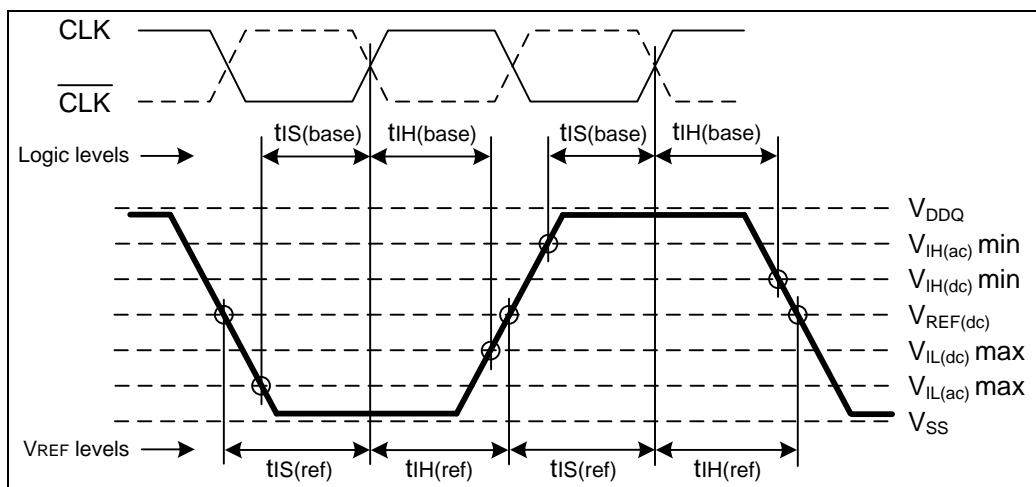

Figure 17 – Differential input waveform timing – t_{IS} and t_{IH}
10. There are two sets of values listed for Command/Address input setup time: $t_{IS(base)}$ and $t_{IS(ref)}$. The $t_{IS(ref)}$ value (for reference only) is equivalent to the baseline value of $t_{IS(base)}$ at V_{REF} when the slew rate is 1.0 V/nS. The baseline value $t_{IS(base)}$ is the JEDEC defined value, referenced from the input signal crossing at the $V_{IH(ac)}$ level for a rising signal and $V_{IL(ac)}$ for a falling signal applied to the device under test. See Figure 17. If the Command/Address slew rate is not equal to 1.0 V/nS, then the baseline values must be derated by adding the values from table of t_{IS}/t_{IH} derating values for DDR2-667, DDR2-800 and DDR2-1066 (page 55).
11. There are two sets of values listed for Command/Address input hold time: $t_{IH}(\text{base})$ and $t_{IH}(\text{ref})$. The $t_{IH}(\text{ref})$ value (for reference only) is equivalent to the baseline value of $t_{IH}(\text{base})$ at V_{REF} when the slew rate is 1.0 V/nS. The baseline value $t_{IH}(\text{base})$ is the JEDEC defined value, referenced from the input signal crossing at the $V_{IL}(\text{dc})$ level for a rising signal and $V_{IH}(\text{dc})$ for a falling signal applied to the device under test. See Figure 17. If the Command/Address slew rate is not equal to 1.0 V/nS, then the baseline values must be derated by adding the values from table t_{IS}/t_{IH} derating values for DDR2-667, DDR2-800 and DDR2-1066 (page 55).